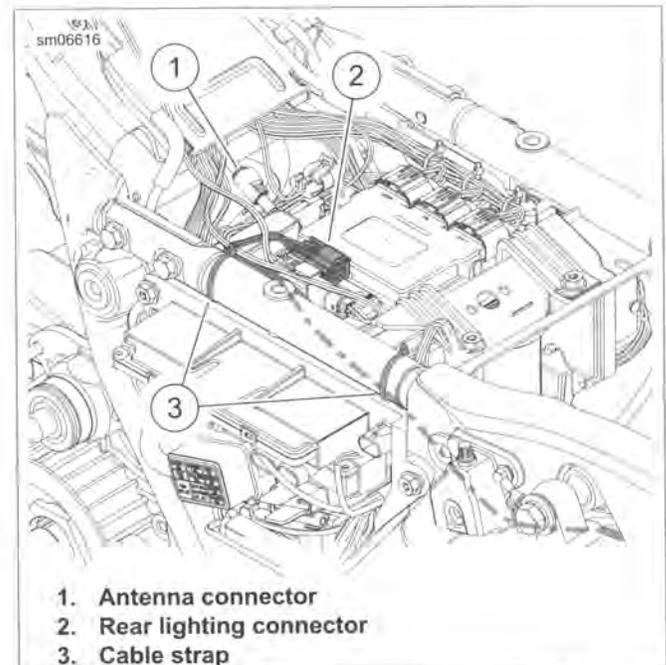

Figure 7-106. Rear Fender Lamps Harness and Antenna Cable Routing: FLHX/S
- a. See Figure 7-106. Disconnect radio antenna cable connector (1).
- b. Disconnect rear lighting connector (2).